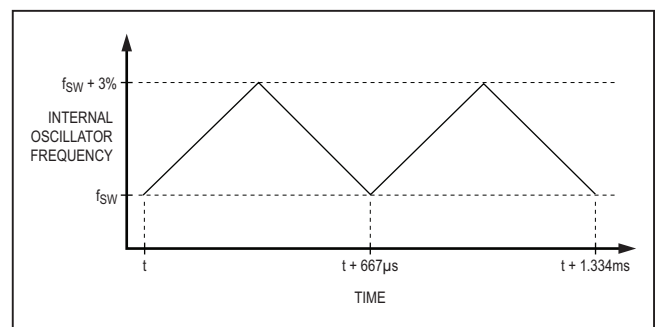

Figure 4. Effect of Spread-Spectrum on Internal Oscillator
The PMICs feature a linear spread-spectrum (SS) operation, which varies the internal operating frequency between  $f_{SW}$  and  $(f_{SW} + 3\%)$ . The internal oscillator is frequency modulated at a rate of 1.5kHz with a frequency deviation of 3% (see Figure 4). This function does not apply to an oscillation frequency applied externally through the SYNC pin. Spread spectrum is a factory-selectable option. See the *Selector Guide* for available options.